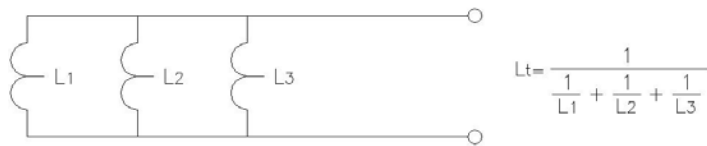

Figure 5.5 – Electrical Symbols For Inductors and Capacitors.
When talking about A-C circuits, the concepts of capacitance and inductance become quite important. An inductor (L) is a device such as a coil of wire that will store electrical energy in the form of a magnetic field. An inductance opposes any change in magnitude of a current flowing through it. A capacitor (C) is a device such as two plates separated by a dielectric (insulation) that stores electrical energy in the form of an electric field. The symbols for inductors and capacitors are shown below in Figure 5.5. Inductance is measured in henries and capacitance is measured in farads.